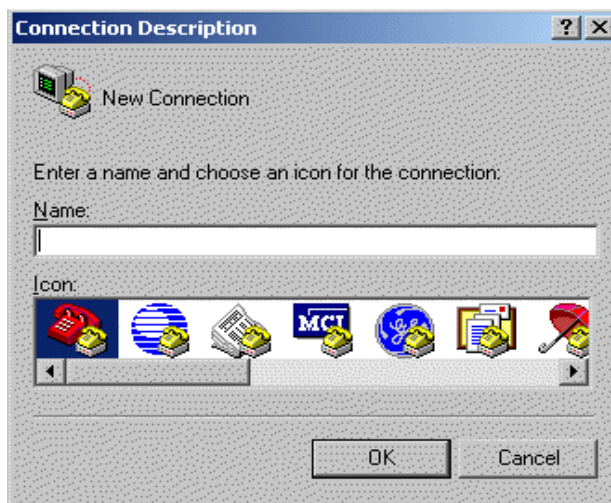

Figure 2-15 Connection Description Dialog Box
4. Open the *HyperTerminal* window on your *Windows Workstation* (*Start>Programs>Accessories>Communications>HyperTerminal*). The *Connection Description* dialog box appears (Figure 2-15).